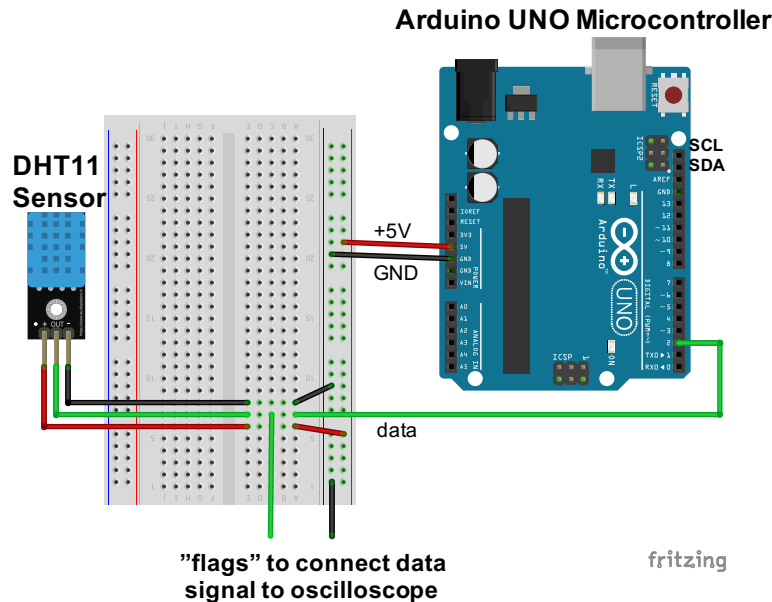

Figure 2 – The DHT11 sensor and Arduino UNO Microcontroller work in tandem with breadboard.
In Parts II and III, we will use *synchronous* I²C sensors that have a wire for data (SDA) and a wire for the shared clock signal (SCL). The I²C communication protocol is so widely used, that the Arduino UNO has dedicated SDA and SCL pins, shown on the right side of Fig. 2.
2. Use red and black jumper wires to connect the +5V and GND pins on the Arduino to the vertical bus lines on the breadboard, as shown in Fig. 2. Use the orange handheld DMM to verify that it is providing +5V of power.
3. Make the following connections via the breadboard, as shown in Fig. 2. Use female-to-male jumper wires make the following connections:
12. Use Channel 1 on the oscilloscope to measure the digital data signal from the sensors. Connect the mini-grabbers to the appropriate places in the circuit by connecting the mini-grabbers to “flag” wires in the correct rows of breadboard, as illustrated in Fig. 2.